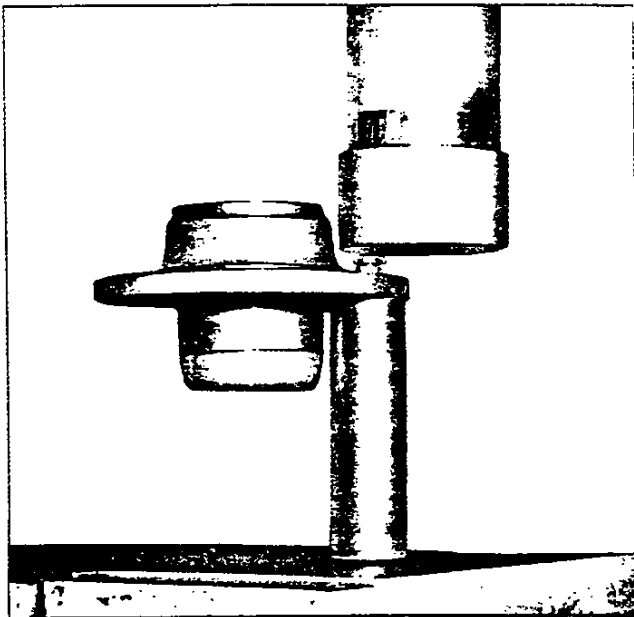

Fig. 10—Installing Front Wheel Hub Bolts
3. Press bolt into flange until head is fully seated against hub flange (fig. 10).